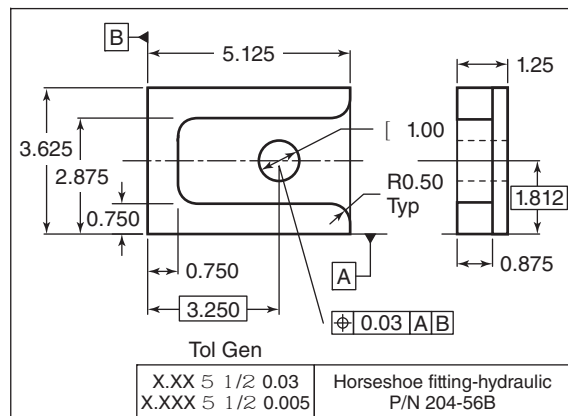
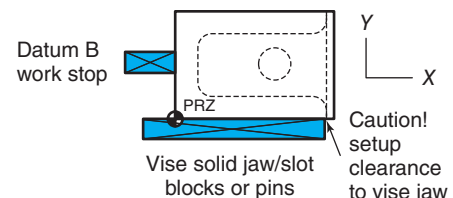

Figure 20-41 Problems 14 through 17.
Figure 20-42 CNC setup sketch part number 204-56B.
14. See Fig. 20-41, Horseshoe Fitting 204-56B. A setup is made according to the document sketch (Fig. 20-42) of the fitting blank.
15. Using the tools as outlined in the setup document (Fig. 20-42), will the program for the 204-56B Hydraulic Fitting form or generate the 0.50 radius at the left side of the pocket? What radius will the cutter path follow? (LO 20-1)